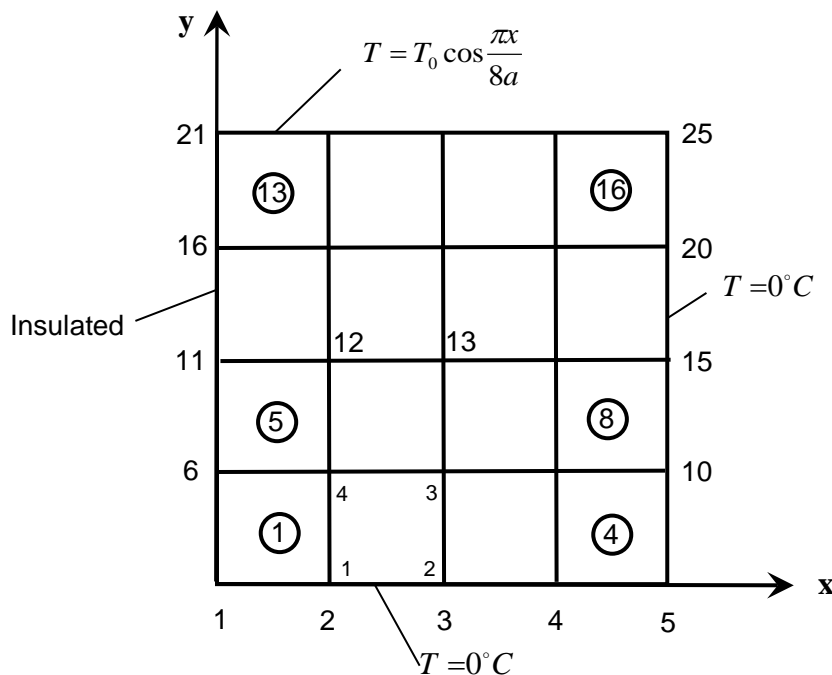

Fig. 1a
3. Write the finite element equations associated with nodes 13, 16, and 19 for the rectangular elements shown in Fig. 1a and triangular elements shown in Fig. 1b.
4. Write the specified primary and secondary variables at all boundary nodes shown in Fig. 1a and Fig. 1b.
5. Develop a general computer code using the finite element method with linear rectangular elements and right triangular elements and run the code for the meshes shown in Figs. 1a and 1b to determine the temperature distribution.
6. Compare the nodal temperatures $T(x,y)/T_0$ obtained using rectangular elements and triangular elements shown in Figs. 1a and 1b in a table with the analytical solution
7. Develop a computer code using the finite element method with arbitrary unstructured linear triangular elements, as it is shown in Fig. 1c, run the code with the mesh shown in Fig. 1b first to check the code and to see whether you obtain the same results as those in Step 5. Then run the code with the mesh shown in Fig. 1c (attached data file). Plot the results with temperature contour lines for the meshes shown in Figs. 1a, 1b and 1c.
Your codes should be general. For the rectangular and right triangular elements, you can assume number of grid points in X and Y as nx and ny , respectively, and obtain the total number of nodes and elements for a given type of elements in terms of nx and ny (You have $nx = 5$, and $ny = 5$ for the elements shown in Figs. 1a-1b). You need to define the connectivity matrices for the rectangular elements and right triangular elements, respectively, in a similar numbering manner as what shown in Figs. 1a-1b with respect to local and global nodes numbering as well as element numbering. For the unstructured triangular elements, the number of nodes and elements, the connectivity matrix, and coordinates of the nodes are given in the file domain.data.
Run your codes for three given type of elements presented in Figs. 1a-1c, respectively, and analyze the results.
Please prepare a report in the format of a scientific paper and cover all steps described in the project. Please use tables to compare the temperatures obtained for the mesh shown in Figs. 1a-1b with the analytical solution at all nodes. Please plot the temperature contours for analytical solution and the three types of meshes shown in Figs. 1a-1c.